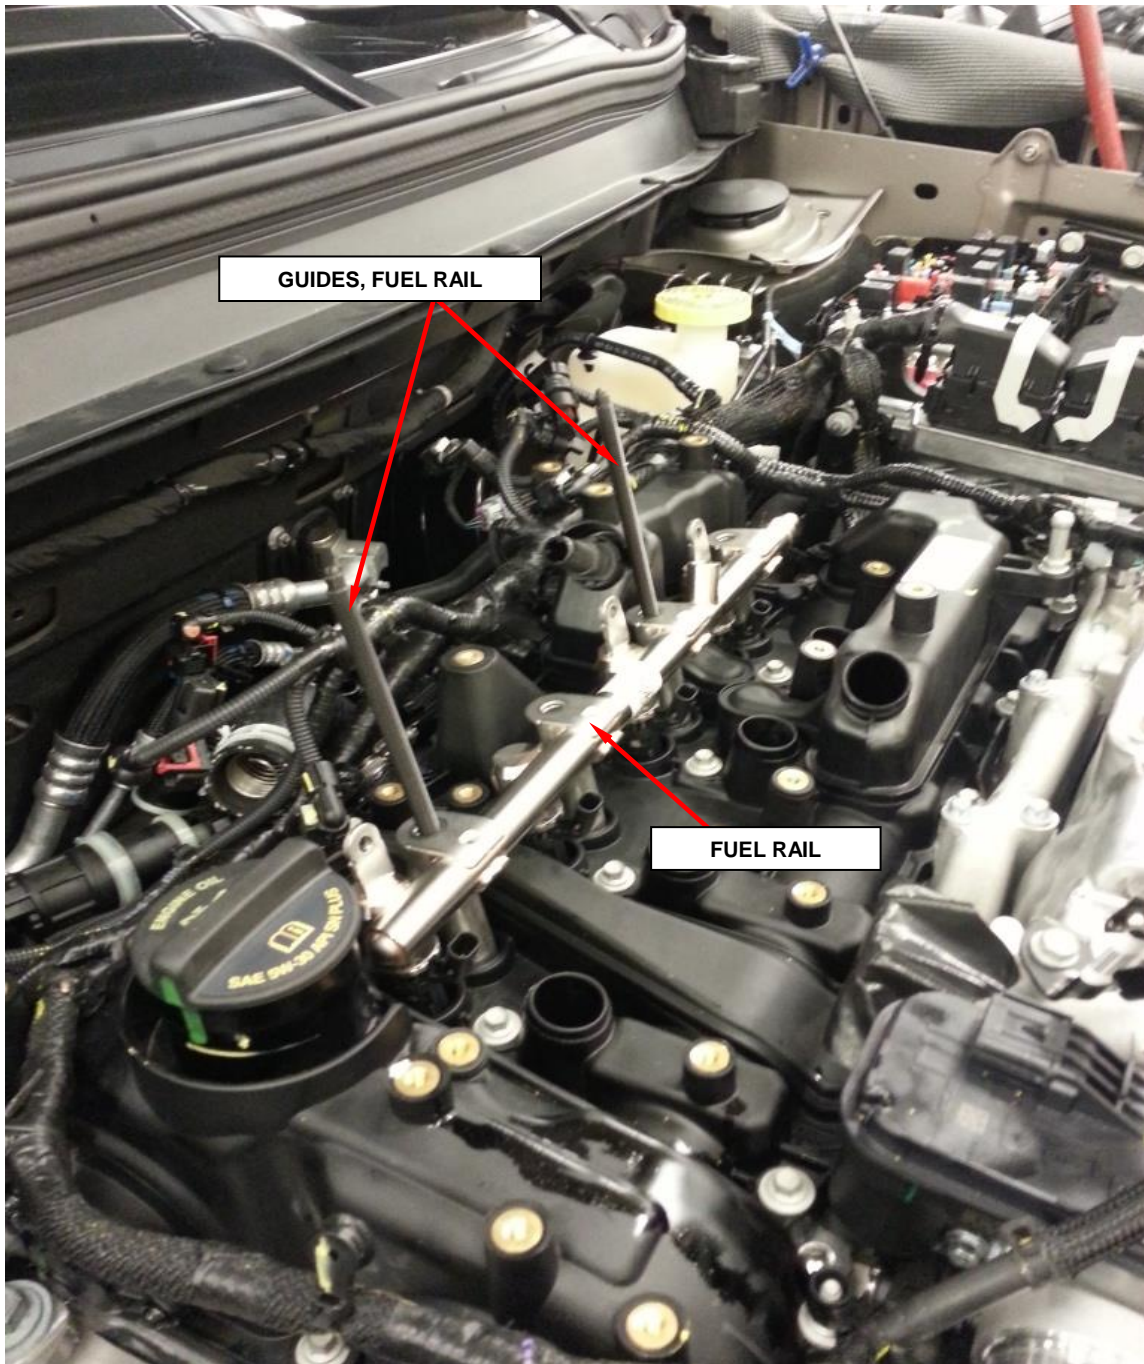

Figure 36 – Fuel Rail Guide
97. Install the fuel rail guides on two of the mounting locations (Figure 36).